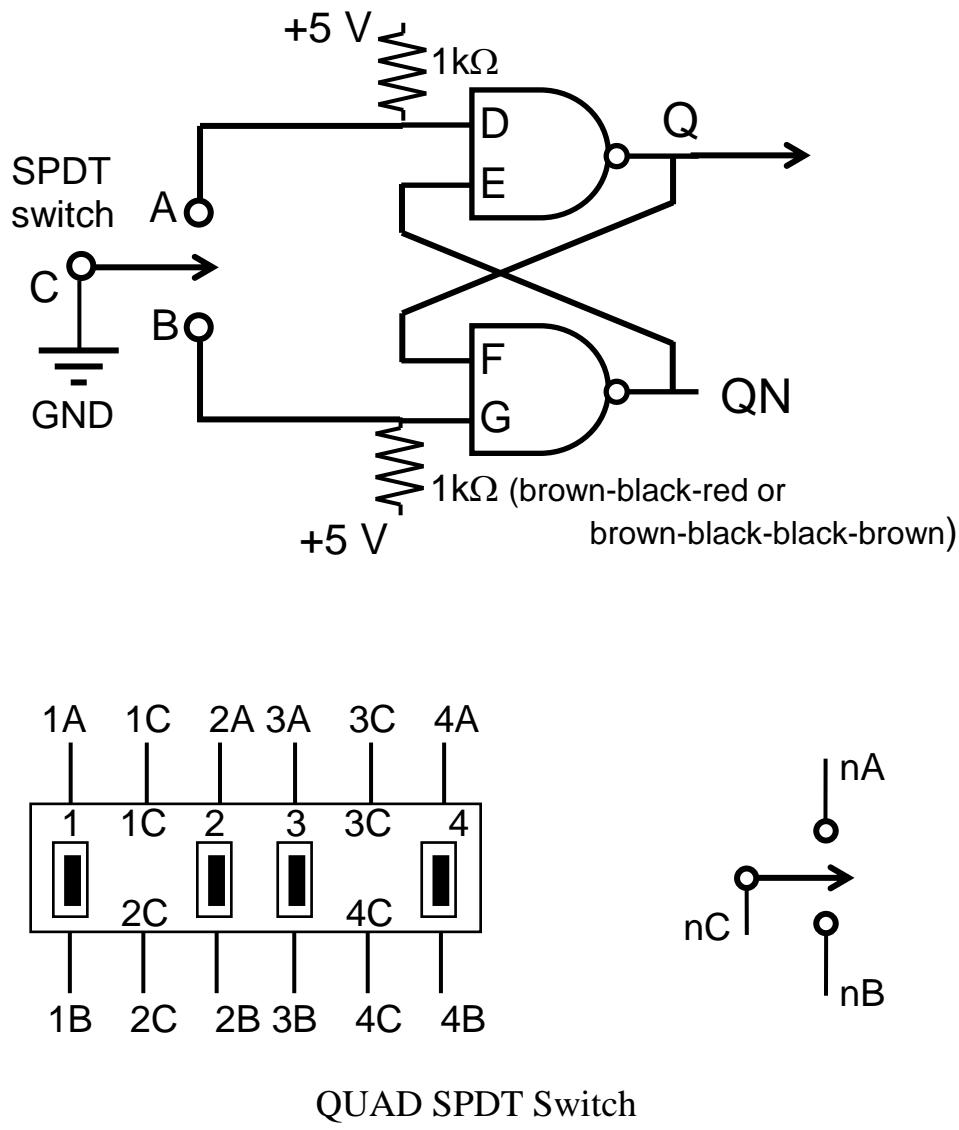

Figure 17. A Debouncing Circuit for an SPDT Switch
The ‘de-bouncer’ circuit shown in Figure 17 eliminates problems caused by switch contact bounce by insuring a clean transition from a logic zero to logic one (or logic one to logic zero) when the switch is thrown. The details of how and why the debouncer circuit works is left as a post-lab exercise. (Hint: The \bar{S} - \bar{R} cross-coupled NAND latch has its output stable when $\bar{S} = \bar{R} = 1$)
- 2.) Explain how and why the debouncer circuit given in General Guide Figure 17 (GG.32) works. Specifically, what makes it behave like a switch and how the ill effect of mechanical contact bounces is eliminated?